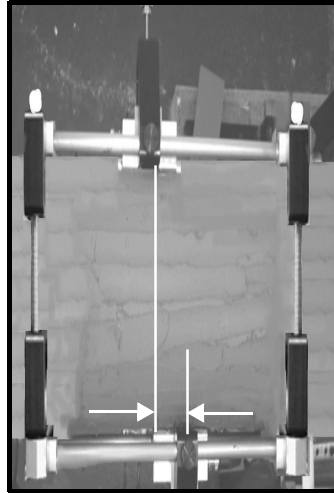

Figure 1-26: Distance Between Transducer Noses
2. Approximate the axial distance from one transducer face to the other transducer face, as shown in Figure 1-26 below.
3. Lay the first strip of damping material flat. Cut a strip to a width equal to the distance between transducer faces (the distance illustrated in Figure 1-26 above).